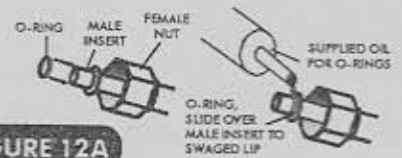
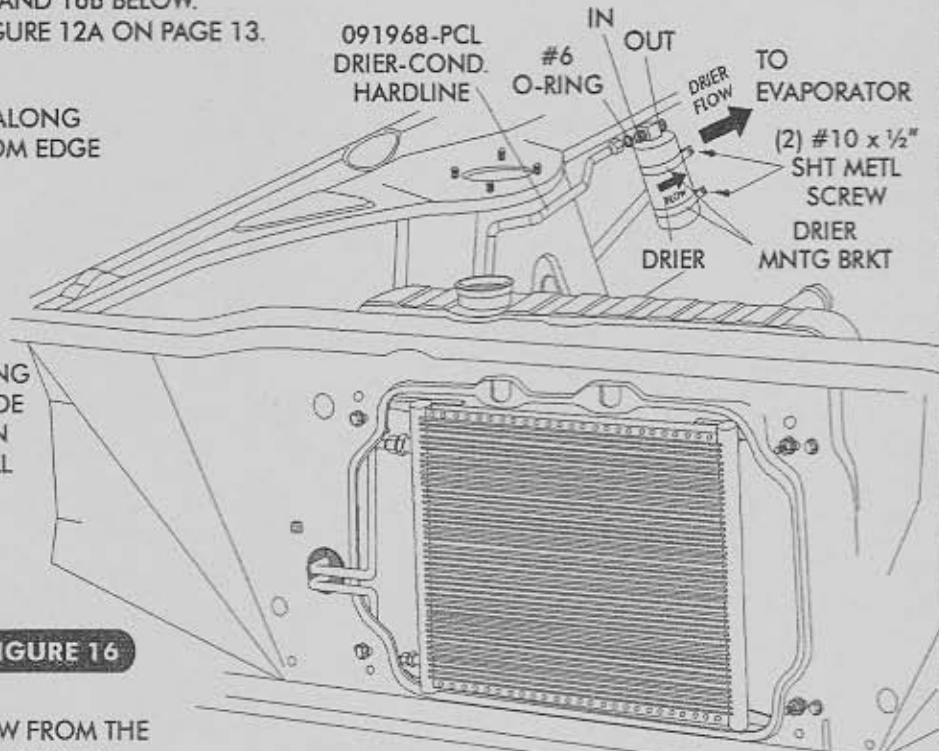

FIGURE 12A
FIGURE 16
- LUBRICATE (2) #6 O-RINGS (AS SHOWN IN FIGURE 12a ON PAGE 13) AND INSTALL THE #6 DRIER TO CONDENSER HARDLINE AS SHOWN IN FIGURE 16 AND 16b BELOW.
- TIGHTEN FITTINGS AS SHOWN IN FIGURE 12A ON PAGE 13.
- LUBRICATE (2) #10 O-RINGS AND INSTALL THE #10 A/C HOSE. ATTACH THE #10 STR. FM O-RING FITTING TO THE #10 EVAPORATOR LINE COMING THROUGH THE FIREWALL AND TIGHTEN FITTINGS AS SHOW IN FIGURE 12A, PAGE 13. ATTACH THE #10 90° FM. O-RING FITTING TO THE COMPRESSOR AS SHOWN IN FIGURE 17 BELOW.